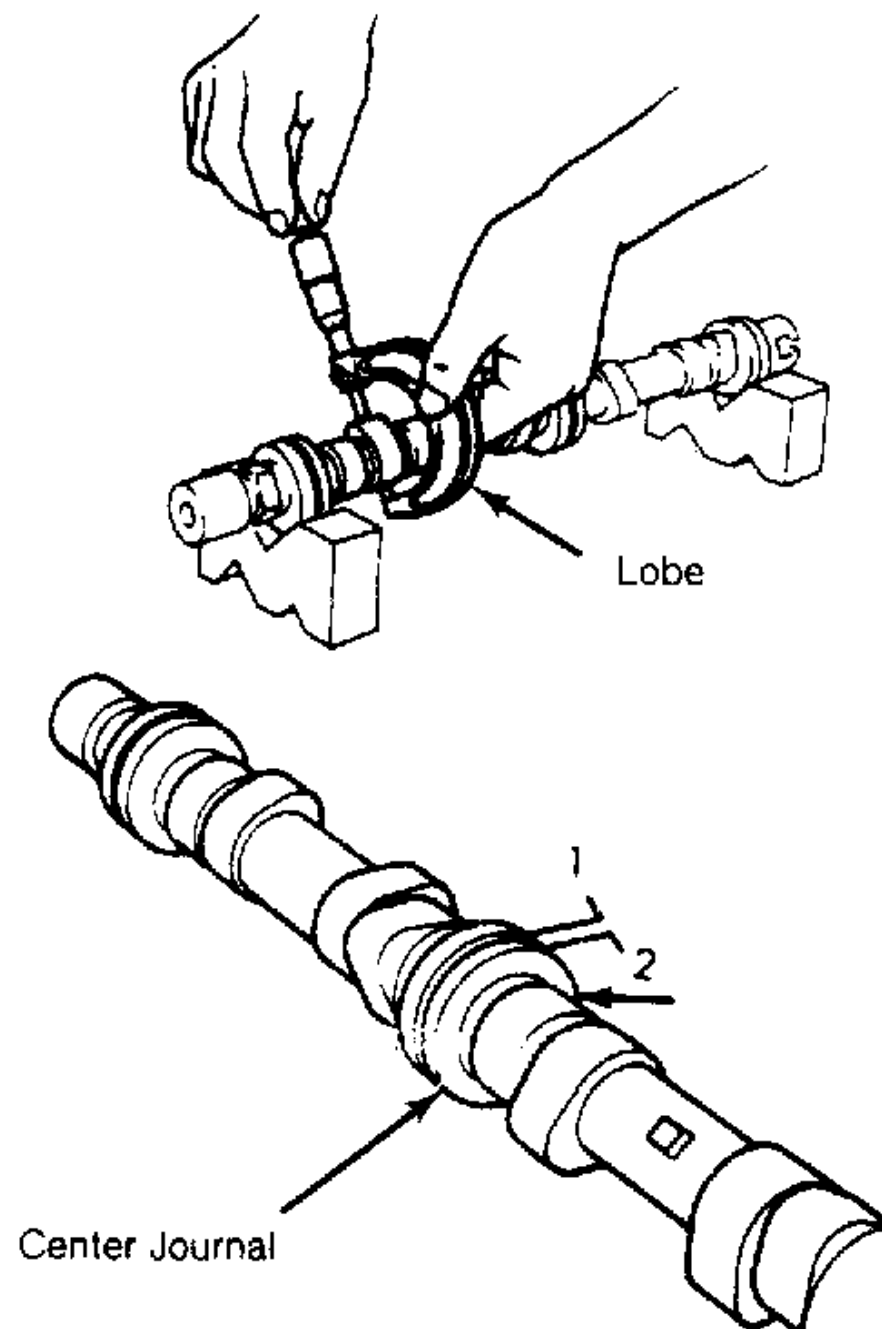

Fig. 7: Measuring Camshaft (1.3L Shown; 1.6L Similar)
2. Measure camshaft bearing journals and cylinder head bores. See **Fig. 6** and **Fig. 7** . Subtract camshaft bearing journal O.D. from cylinder head bore I.D. to obtain oil clearance. If clearance is not within specification, replace head and/or camshaft. See, in this article, **CAMSHAFT SPECIFICATIONS** table under ENGINE SPECIFICATIONS tables.
- 2. Measure camshaft bearing journals and cylinder head bores (with bearing caps in place and torqued to specification). See Fig. 7 . Subtract camshaft bearing journal O.D. from cylinder head bore I.D. to obtain oil clearance. If clearance is not within specification, replace head and/or camshaft. See CAMSHAFT SPECIFICATIONS table under ENGINE SPECIFICATIONS at end of article.